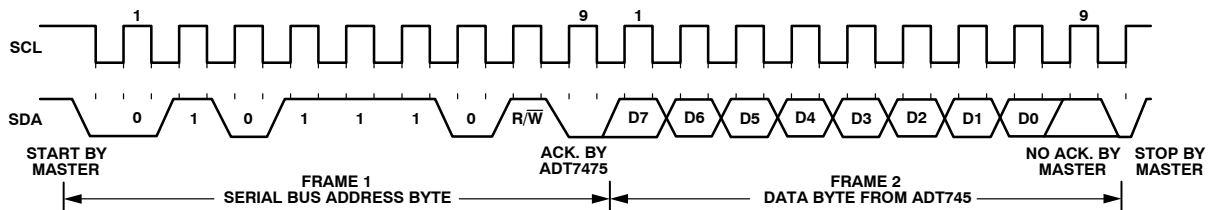

Figure 15. Reading Data from a Previously Selected Register
A read operation is then performed consisting of the serial bus address; the R/W bit set to 1, followed by the data byte read from the data register see Figure 15.
- If the address pointer register is known to be already at the desired address, data can be read from the corresponding data register without first writing to the address pointer register see Figure 15.